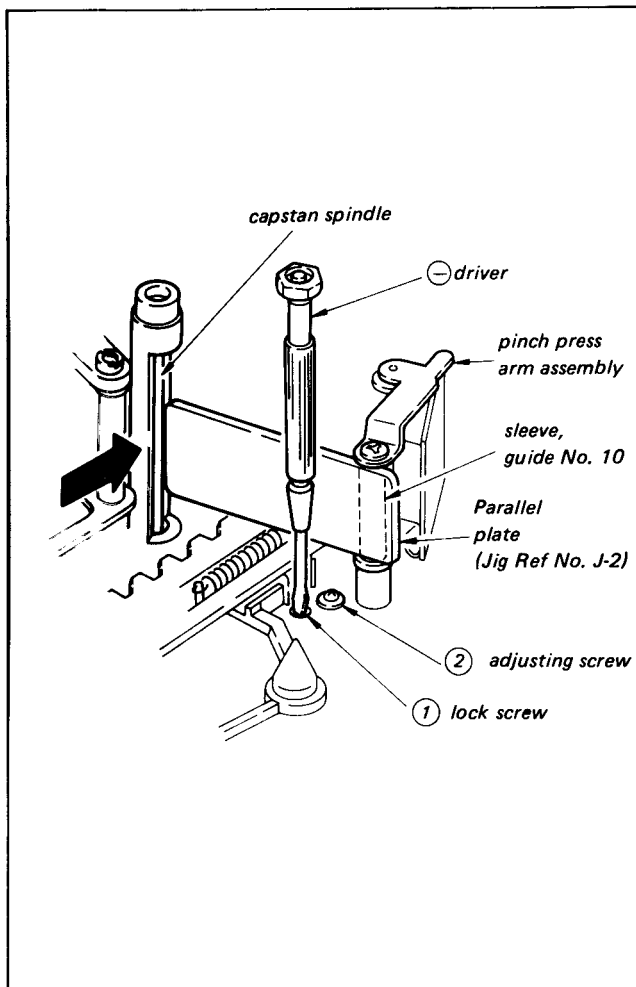

Fig. 3-10. Perpendicular Adjustment of Capstan Motor Spindle
- 1) Place parallel plate (Tool Ref. No. J-2) on No. 10 guide sleeve of the pinch press arm assembly perpendicularly, as shown in Fig. 3-10.
- 2) Loosen screw ①.
- 3) Rotate adjusting screw ② and align the capstan spindle perpendicularly.
- 4) Tighten screw ① and fix the capstan motor.